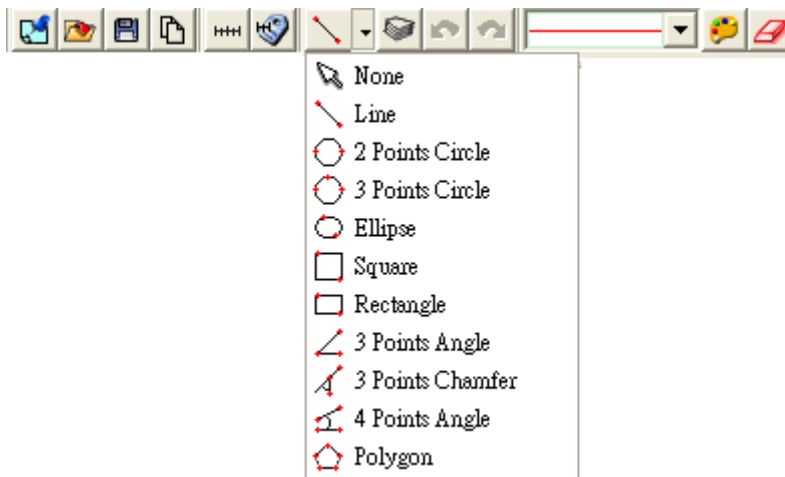
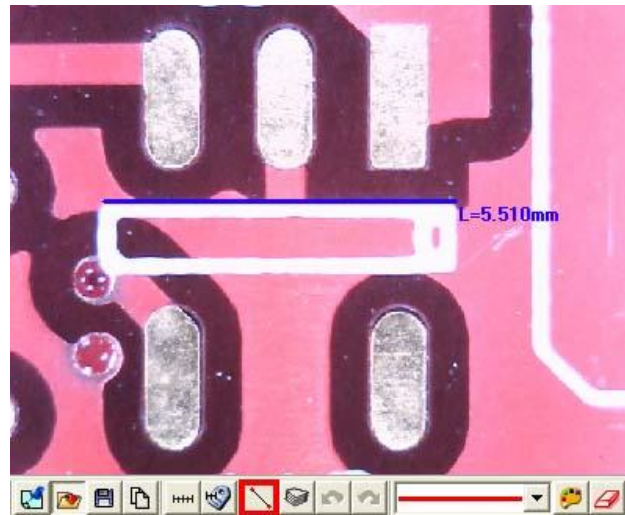
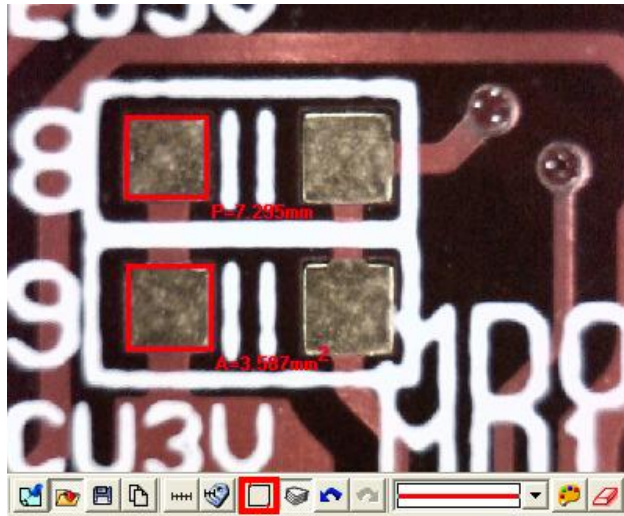
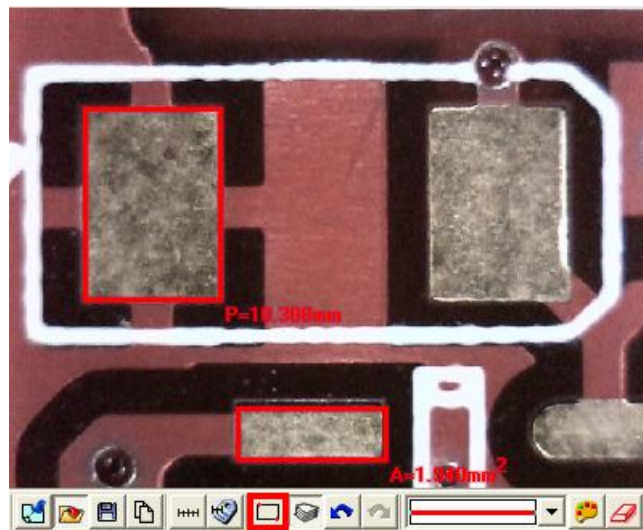

Fig.5-63 Measurement Tool Styles
Fig 5-64 Length measurement
Fig 5-68 Square
Fig 5-69 Rectangle
The measuring include optional Line, 2 Points Circle, 3 Points Circle, Ellipse, Square, Rectangle, 3 Points Angle, 3 Points Fillet, 4 Points Angle, and Polygon for variable demand. As shown in Fig. 5-63.
- (1) Line: Measure the Length and use . See Fig 5-63.
Firstly choose Fig.5-63 Scale information setting dialog. Measure the Length on the PCB rectangle, choose the “line” icon, then draw a line, the “L” means Length. Ex: L=5.510mm as Fig. 5-64.
- (2) 2 Points Circle: Measure the round object can use . Firstly choose Fig.5-63 Scale information setting dialog. To point any dot on the circle, pressing the left button of the mouse and drag the line to another point on the circle. It should automatically calculate C: Circumference, A: Area, R: Radius, D: Diameter. See 1st circle: C=2.276mm, 2nd circle: =0.412mm², 3rd circle R=0.716mm, and 4th circle D=1.467mm as Fig. 5-65.
- (3) 3 Points Circle: See an arc or a circle shows on the observation only and need measure the circle, it can use . Firstly choose Fig.5-63 Scale information setting dialog. To point any point on the edge of an arc, draw a line to second point, then drag the line to the third point on the same arc, to automatically calculate a correct circle. The said 3 points on the arc to be necessary a triangle. circle.The said 3 points on the arc to be necessary a triangle. See Fig.5-6, the See
- (5) Square: To measure the object is a parallelogram, it can use . Firstly choose Fig.5-63 Scale information setting dialog. To point one dot on the angle, pressing the left mouse button, and drag the diagonal to make a square and fit the observed object. See Fig 5-68 , P : Perimeter, A: Area, see Fig 5-68, the top
- (6) Rectangle: Measure a rectangle and use . Firstly choose Fig.5-63 Scale information setting dialog. To point one dot on the corner, press the left mouse button, and drag the diagonal to make a rectangle to fit the observed object. See Fig 5-69, P : Perimeter, A: Area, see Fig 5-69, the top rectangle on left $P=10.308\text{mm}$, the bottom rectangle in the middle $A=1.940\text{ mm}^2$.